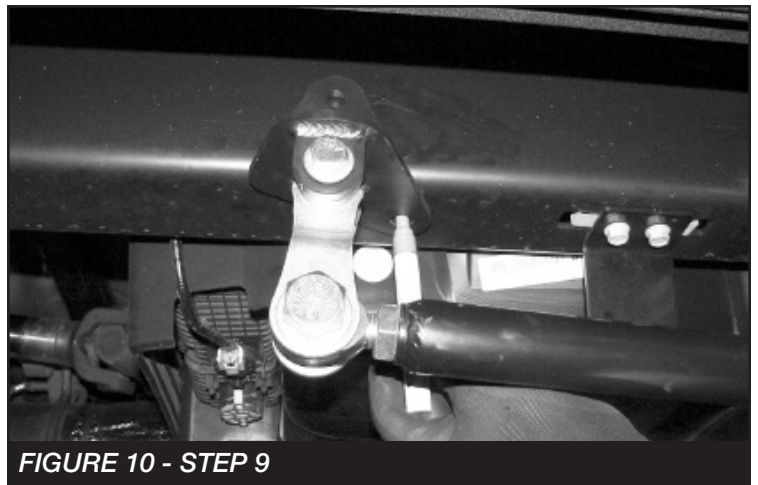

FIGURE 10 - STEP 9
9. Swing the traction bar up to the frame. With the shackle up and down mark the two holes using the frame bracket as a template. **SEE FIGURE 10**